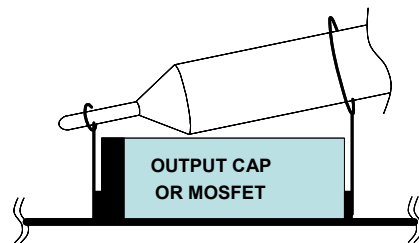
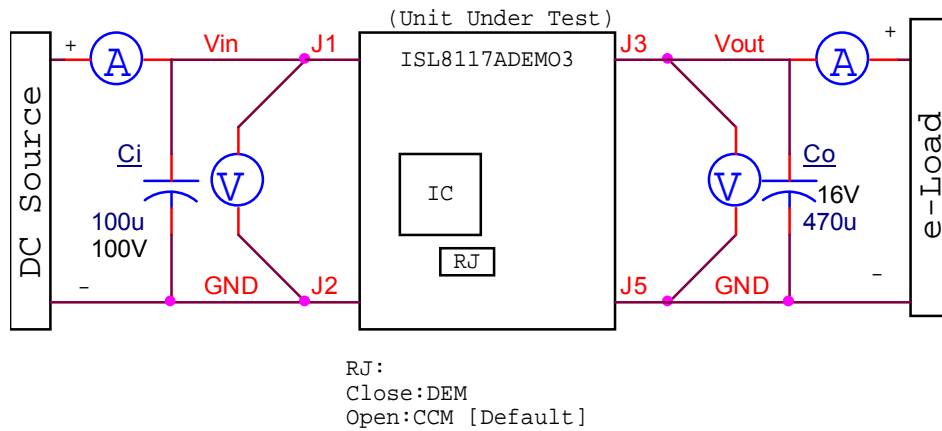

Figure 2. Proper Probe Setup to Measure Output Ripple and Phase Node Ringing
Figure 3. Proper Test Setup
As shown in Figure 3 on page 7, 6V to 60V V_{IN} is supplied to J1 (+) and J2 (-). The regulated 5V output on J3 (+) and J5 (-) can supply up to 6A to the load.
- (1) Ensure that the circuit is correctly connected to the supply and electronic loads prior to applying any power. Refer to Figure 3 for proper setup.
- (2) Turn on the power supply.
- (3) Adjust the input voltage, V_{IN} , within the specified range and observe output voltage. The output voltage variation should be within 3%.
- (4) Adjust load current within the specified range and observe output voltage. The output voltage variation should be within 3%.
- (5) Use an oscilloscope to observe output voltage ripple and phase node ringing. For accurate measurement, refer to Figure 2 for proper test setup.